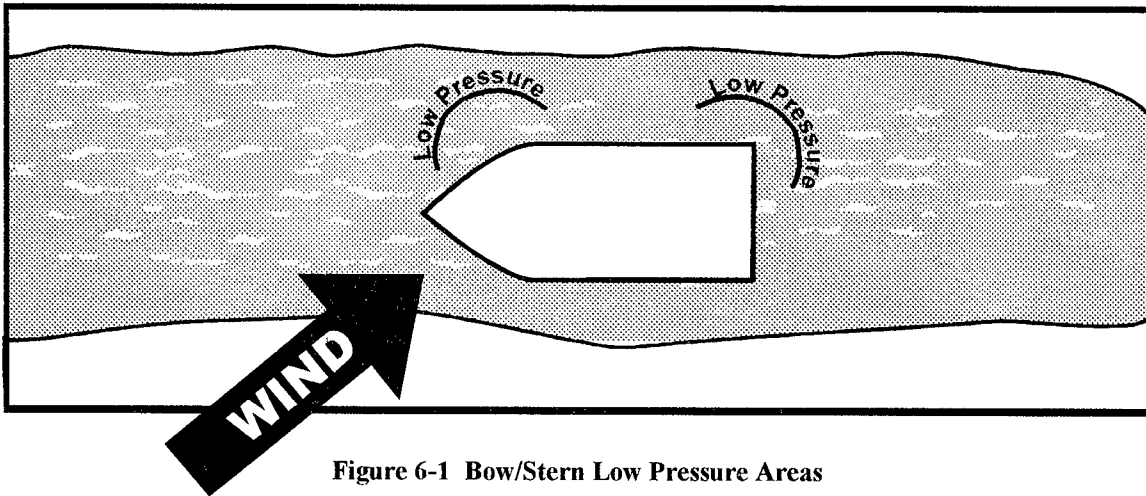

Figure 6-1 Bow/Stern Low Pressure Areas
5. Areas for Concern. The areas around the bow and stern of the beset vessel are where low pressure areas are most likely to occur. This is a result of the prop wash and backing of the beset vessel weakening the ice as it attempts to free itself (See **Figure 6-1.**) As the assisting vessel approaches either end of the beset vessel it should begin to open the distance between the vessels and be prepared to maneuver to avoid a collision.